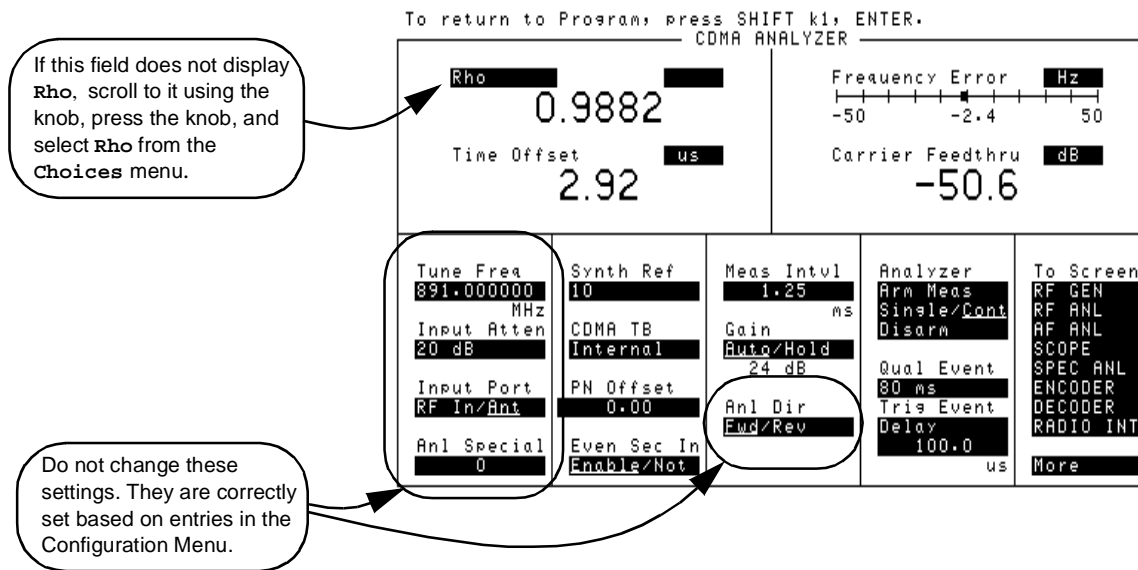

Figure 9
- 5 If **Rho** does not already show in the upper left measurement field (other measurement options are **Chan Pwr**, **EVM**, and **Avg Pwr**), place the cursor on the field, push the knob, and select **Rho** (see figure 9).
While using the CDMA ANALYZER Screen, do not make changes to fields that are controlled by the software. These include **Tune Freq**, **Input Port**, and **Anl Dir** (see figure 9). Changes made to these fields in the CDMA ANALYZER Screen may affect operation at a later time.